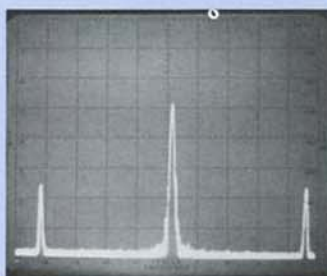
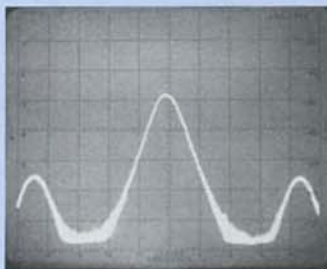

Figure 36.
Figure 37.
23. Select 10 kHz modulation on the ET-2399A. Set SCAN WIDTH to 2 kHz/DIV. Switch MODULATION ON and turn MODULATION LEVEL approximately 1/4 turn. Note the 10 kHz sidebands on the carrier. (Figure 36.) Change BANDWIDTH to 1 kHz (this is the minimum bandwidth offered by other microwave spectrum analyzers). Note the difference in resolving capability. (Figure 37.)
The amplitudes on the display in Figure 36 are asymmetrical because the modulator in the ET-2399A produces incidental FM as well as the desired AM. (Lower FM and AM sidebands are adding in-phase; upper FM and AM sidebands are adding out-of-phase.) Note second harmonic (and higher order) distortion sidebands. These sidebands are typically 20 dB below the fundamental sidebands, corresponding to 10% second harmonic distortion.